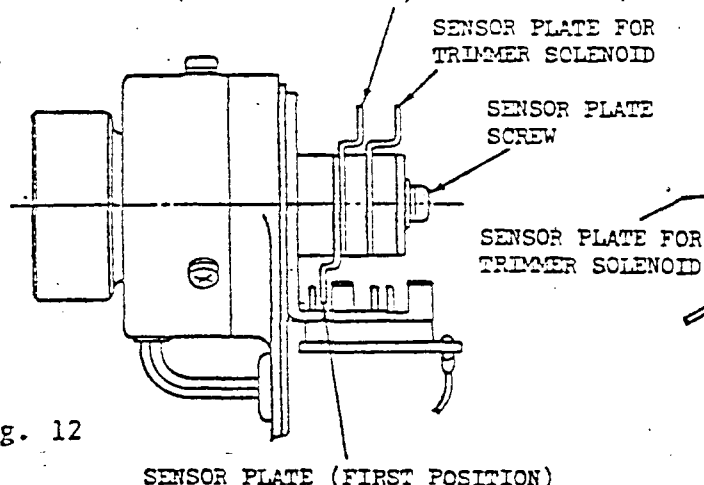

Fig. 12
1. The positions of the sensor plates (for upper and lower needle positions and for controlling the trimmer solenoid) in relation to the sensor set screw should be as shown in Figs. 12 and 13. To adjust the position of a sensor plate, loosen screw on right end of the sensor and turn sensor plate as required, then tighten the screw.